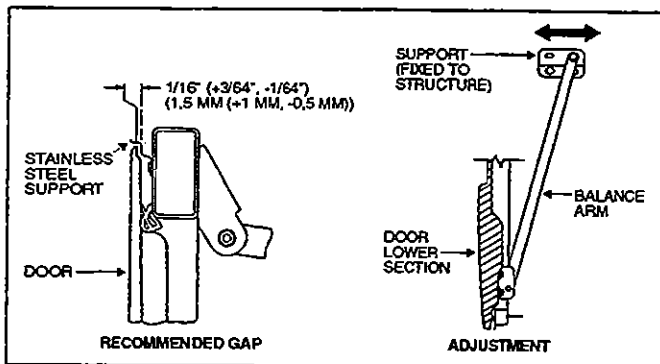

Figure 28
11. Recheck gap mentioned in step 9. If gap has changed, correct half the change by adjusting arm support fixed to structure. Loosen the bolt supporting balance arm on door lower section and close the door, gap adjustment will automatically result. Tighten the bolt from inside the compartment. Refer to figure 28.